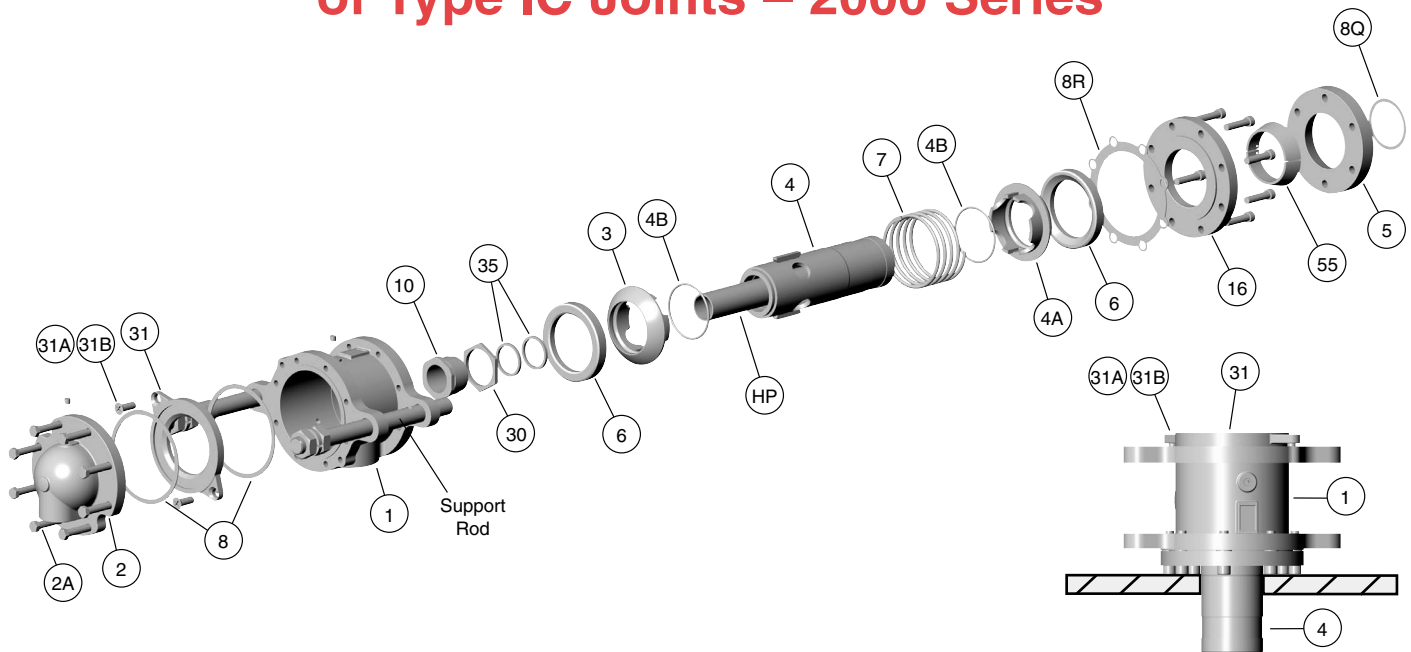

Figure 2
Position the rotary joint assembly upright (Figure 2) with nipple (4) extending down into a piece of pipe or through a hole in the table. In that position, the joint body housing (1) will be resting on the pipe or table.